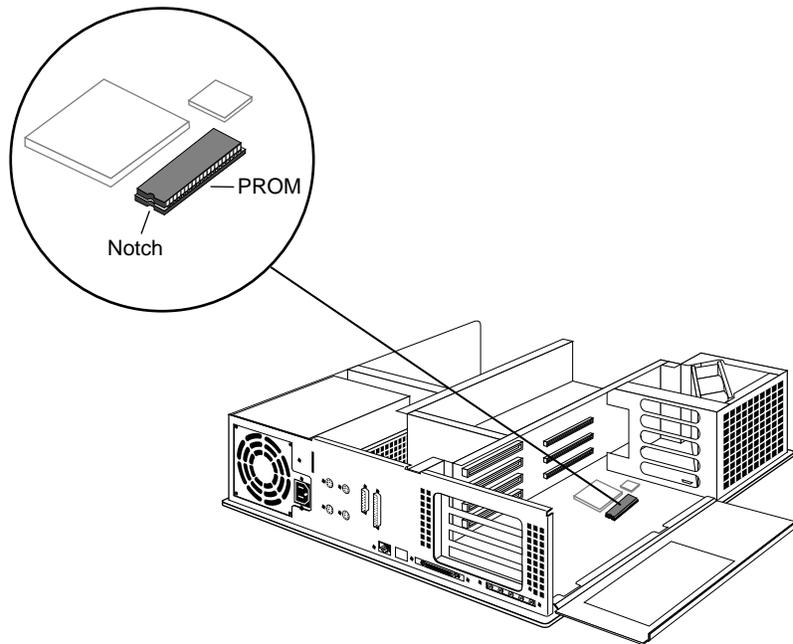

Figure 1-13 Locating the PROM Chip on the System Board
1. Locate the PROM chip. The PROM chip is located in a socket on the system board, below the slot from which you removed the graphics board, as shown in Figure 1-13.
2. Before removing the PROM chip, familiarize yourself with it. Note that it has a semicircular notch at one end, as shown in Figure 1-13. You'll use this notch to orient the new PROM when you install it.